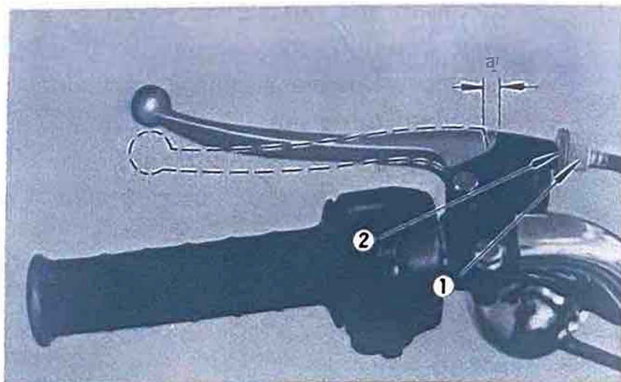

Fig. 54
6. CLUTCH WIRE ADJUSTMENT (Fig. 54)